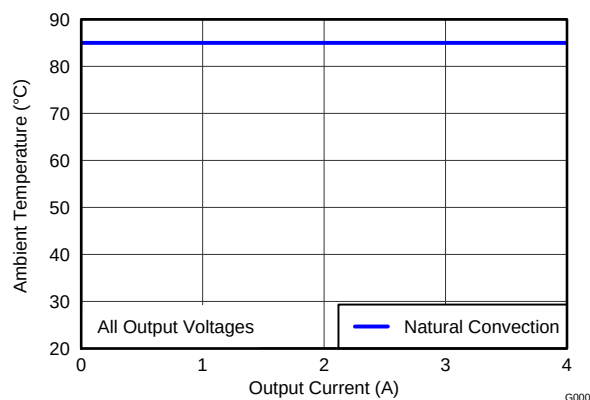

Figure 9. Safe Operating Area
- (2) The temperature derating curves represent the conditions at which internal components are at or below the manufacturer's maximum operating temperatures. Derating limits apply to devices soldered directly to a 100 mm $\times$ 100 mm double-sided PCB with 1 oz. copper. Applies to Figure 9.